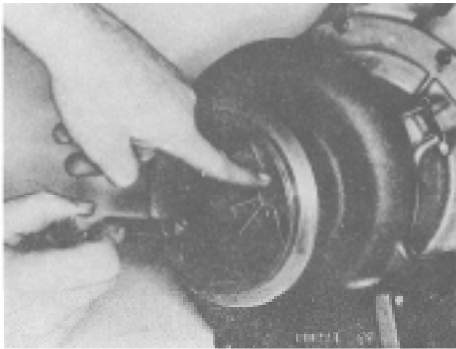

Fig. 10-37, T-5,44. Checking radial clearance on turbine end
- b. Using a feeler gauge, check minimum distance between tip of wheel vanes and bore. Clearance should be 0.005 to 0.033 inch [0.13 to 0.84 mm] on compressor end and 0.011 to 0.043 inch [0.28 to 1.1 mm] on the turbine end. Fig. 10-37.